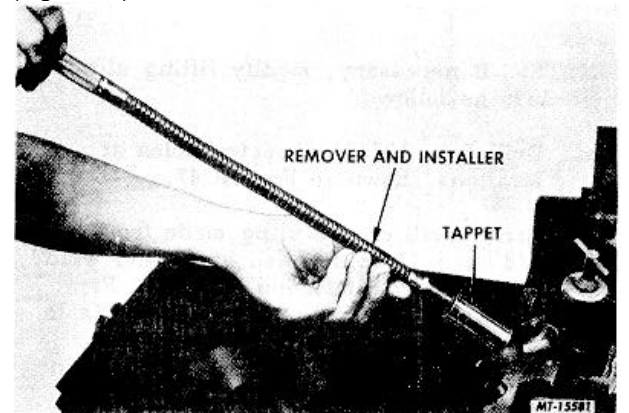

Fig. 53 Removing Tappet
45. Use tappet remover tool SE-2097 to remove tappets (Figure 53).